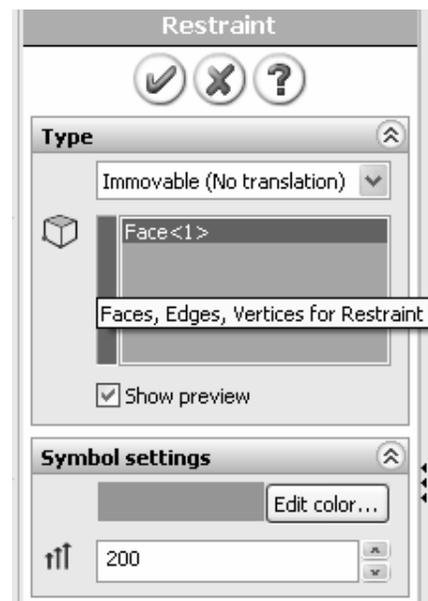
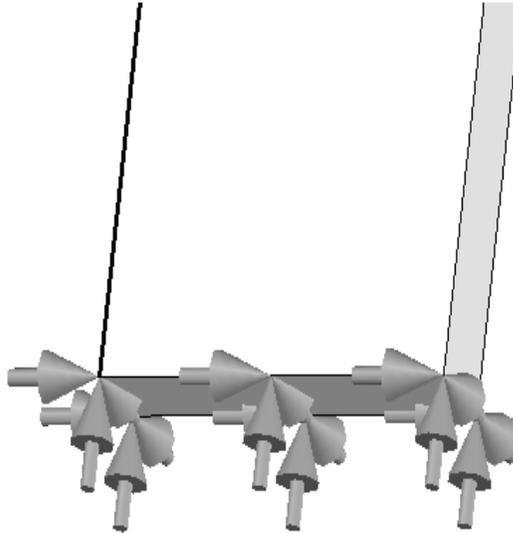

Figure 6 – **Restraint** property manager.
Figure 7 – **Immovable** restraints applied to bottom of the curved beam model.
The **Restraint** property manager opens as shown in Fig. 6.
3. The **Faces, Edges, Vertices for Restraint** field immediately below the pull-down menu is highlighted (salmon color) to indicate it is active and waiting for the user to select part of the model to be restrained. Rotate, and/or zoom to view the bottom of the model. Next, move the cursor over the model and when the bottom surface is indicated, click to select it. The surface is highlighted and, provided the  **Show preview** box is checked, restraint symbols appear as shown in Fig. 7. Also, **Face<1>** appears in the **Faces, Edges, Vertices for Restraint** field.
5. Both color and size of the restraint symbols (vectors in the X, Y, Z directions) can be changed by altering values in the **Symbol settings** field of Fig. 6. Experiment by clicking the up  or down  arrows to change size of restraint symbols. A box of this type, where values can be changed either by typing a new value or by clicking the   arrows, is called a “spin box.” Restraint symbols shown in Fig. 7 were arbitrarily increased to 200%. Experiment with this option.
**Immovable** restraint symbols shown in Fig. 7 appear as simple arrows or vectors with a straight shaft. These symbols indicate *displacements* in the X, Y, and Z directions are restrained (i.e., prevented).